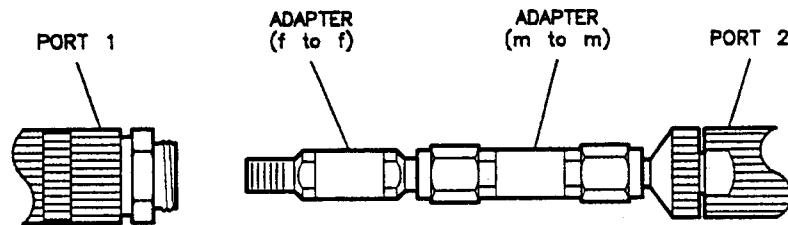

Figure 1-2. Port 1 Calibration Set
3. Using the calibration kit adapters, connect the equipment as shown in Figure 1-2.